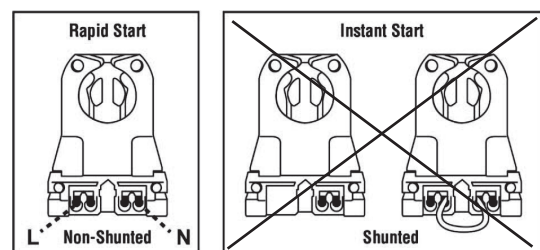

Fig: 1 - Non-shunted & Shunted Lamp Holder
6. Ensure that the fixture contains non-shunted G13 bi-pin lamp holders (Fig. 1). If socket lamp holders are internally shunted, then replace with new non-shunted socket lamp holders. If socket lamp holders are shunted with a jumper wire, remove wire to convert into non-shunted sockets.